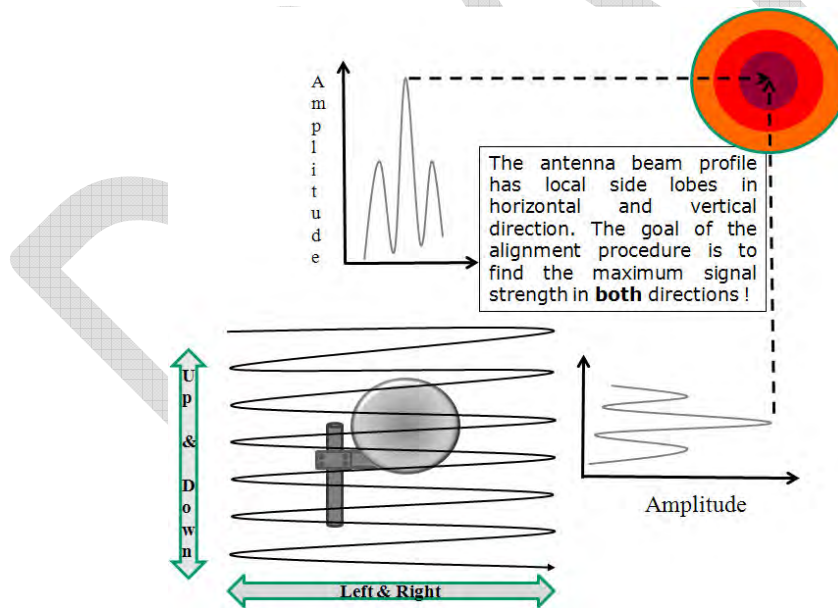

Figure 5-11: Simple illustration of the alignment process
6. Ensure that the antennas are not aligned on a side-lobe. When rotating the antenna a few degrees to each side of the perceived alignment center, both side-lobes can be detected as "local RSSI voltage minima". The main lobe which is located right in the middle between the two side lobes will have a much higher voltage reading. Fig. 5-11 shows a simple illustration of the alignment process and the location of the antenna side lobes in relation to the main lobe.